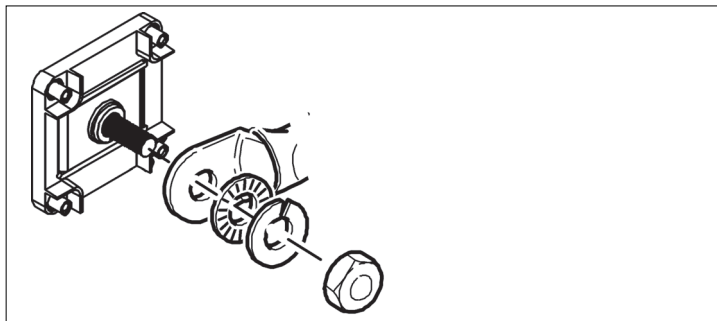

Figure 8 DC Cable Connections
Use only appropriately sized copper cable. Loose connections, improper connections, and under-rated cables will overheat. Make sure that the supplied bolts on the inverter/charger are tightened to a torque of 11–12 ft-lbs or 132–144 inch-lbs or 14.9–16.3 Nm. Torque all other connections to the manufacturer's specifications. Make sure the DC cable, washers, and bolt are assembled in the order shown in Figure 8.
4. Connect one connector on the POSITIVE (+) cable to the POSITIVE DC terminal on the inverter/charger, as shown in Figure 8. The connector goes on first, then the flat washer (steel), lock washer (steel), and 3/8" bolt (brass).
6. Connect one connector on the NEGATIVE (–) cable to the NEGATIVE (–) DC terminal on the inverter/charger, as shown in Figure 8. The connector goes on first, then the flat washer (steel), lock washer (steel), and 3/8" bolt (brass).